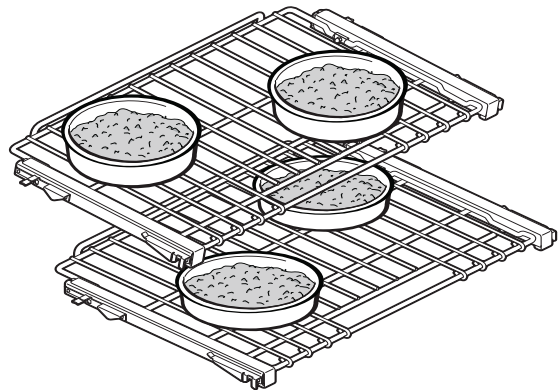
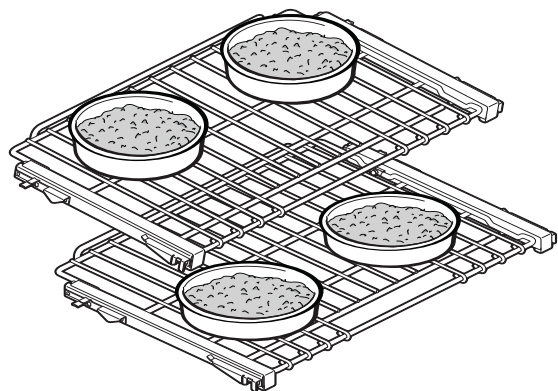

Figure 28: 36" & 48" Pan Placement
Figure 29: 30" Pan Placement
- Allow 1½" (38 mm) above and below each pan. For 36" and 48" model ovens, stagger bakeware so that one is not directly above another, as shown in *Figure 28*. For 30" model ovens, bakeware should be positioned as shown in *Figure 29*.
- Racks #2 and #4 are most appropriate when using the convection bake mode. Cookie sheets should not be staggered but the cookie sheet on rack #2 should be placed directly under the one on rack #4 or #5. Stagger round cake pans (see *Figure 28*).
- Cookie sheets with only two sides give the best results. Aluminum commercial half-sheets or professional cooking utensils may be used (see *Figure 28*).